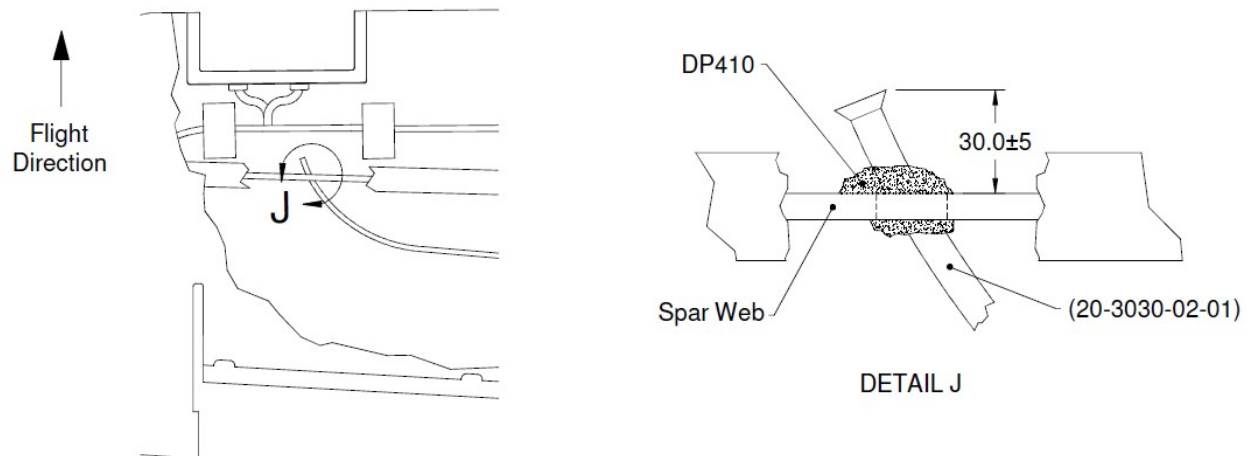

Figure 39: Bonding of Pitot Wire Conduit to Wing Spar
- 13.1.11** Bond the Pitot Wire Conduit through the newly drilled hole in the Spar Web using Epoxy Adhesive DP410, according to Detail J of Figure 39. Ensure the bonded area is free of voids and the straight end of the Pitot Wire Conduit rests on the Lower Wing Skin.